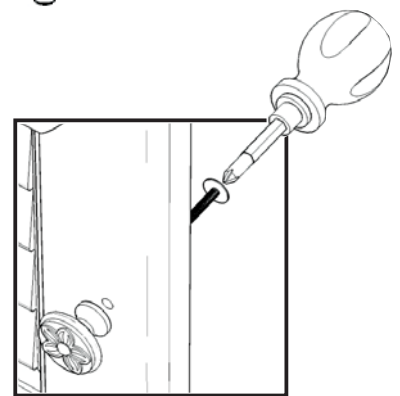

Figure 9
Attach Pull Handles to Doors (T) and (U) with Machine Screws. (see Figure 9)